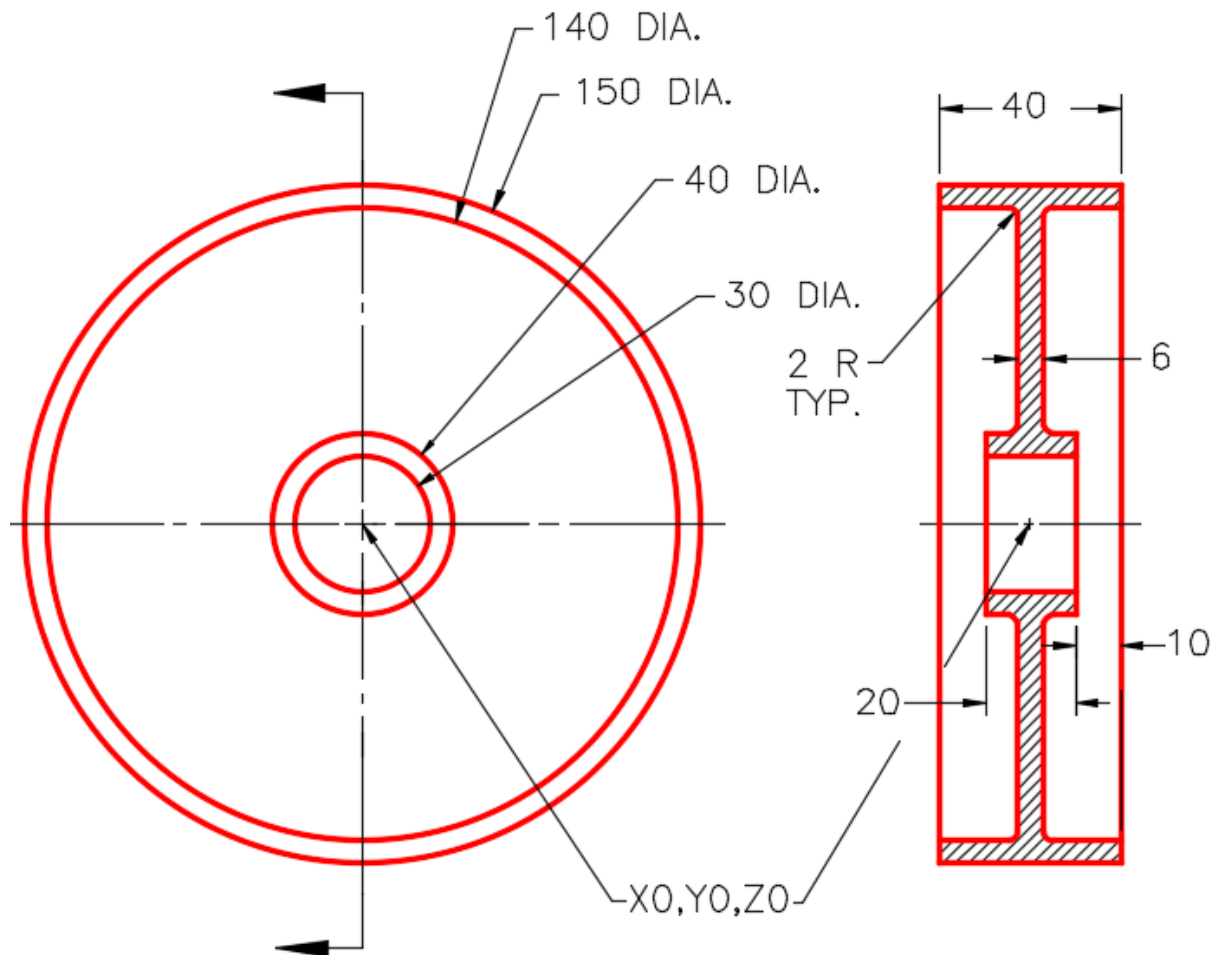

Figure Step 1A
Step 1 On layer: Pline, draw the cross section of the top half of the model on the right side UCS. (Figure Step 1A and 1B)